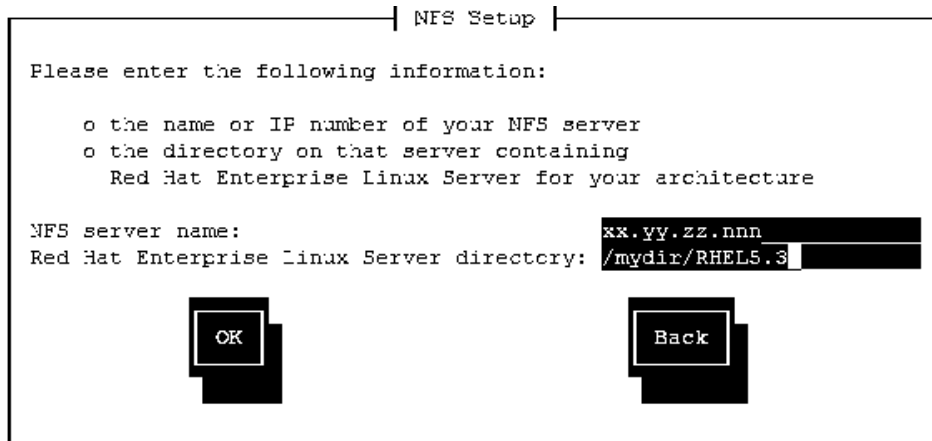

Figure 8-13 NFS server configuration window panel
8. In the NFS Setup window in Figure 8-13 on page 347, enter the IP address of the NFS server and in the field directly below that, enter the NFS directory that contains the Red Hat Enterprise Linux 5.3 install image.